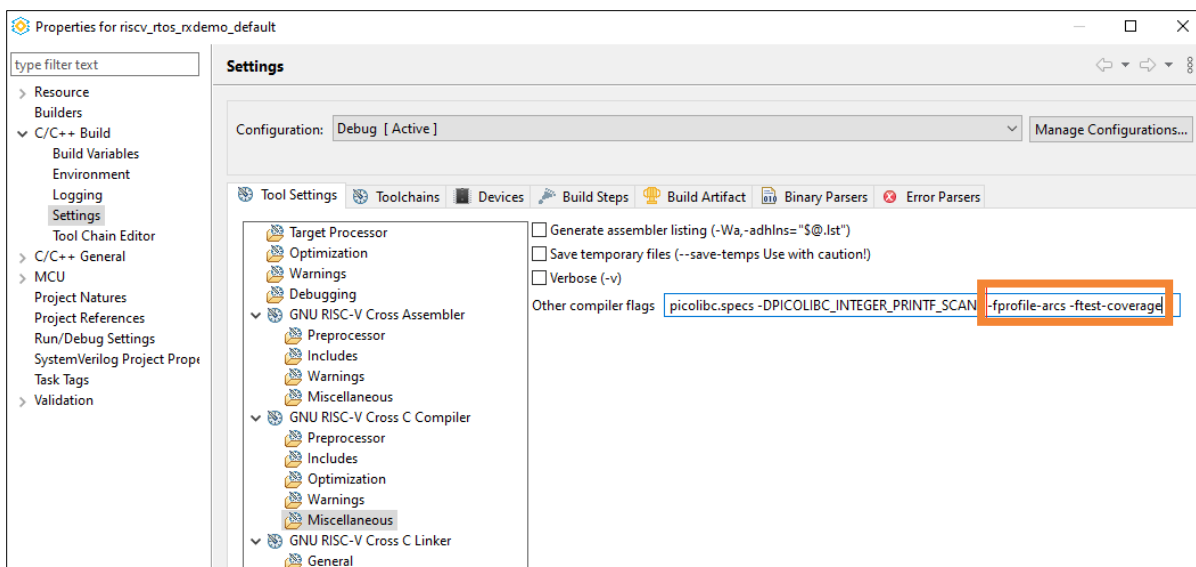

Figure 5.24. -fprofile-arcs -ftest-coverage Compiler Flag
4. Select **GNU RISC-V Cross C Compiler > Miscellaneous**. Add the compiler flag, `-fprofile-arcs -ftest-coverage` (Figure 5.24).